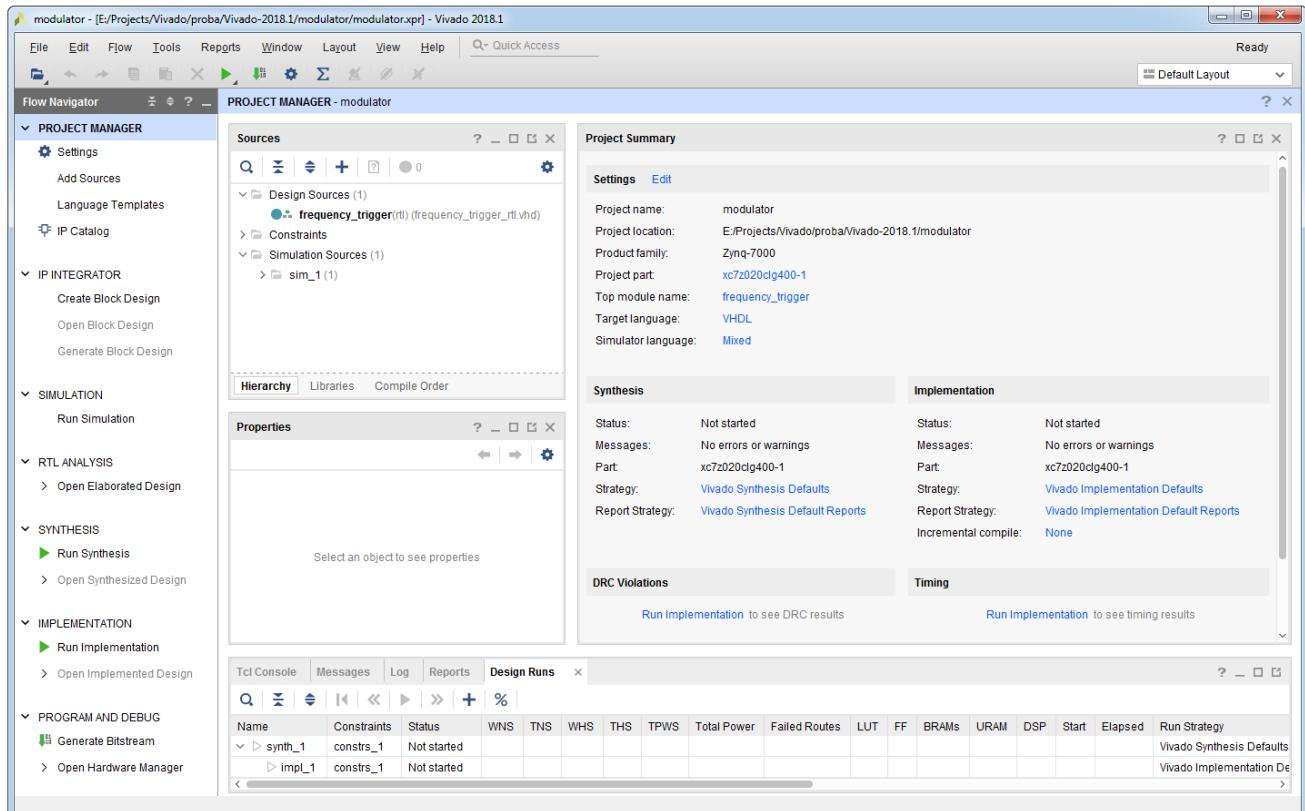

Figure 2.27: Vivado IDE Viewing Environment after module creation
- Click **Finish** and your source file should appear under the **Design Sources** in the **Sources** view in the **Project Manager** window, see Figure 2.27.